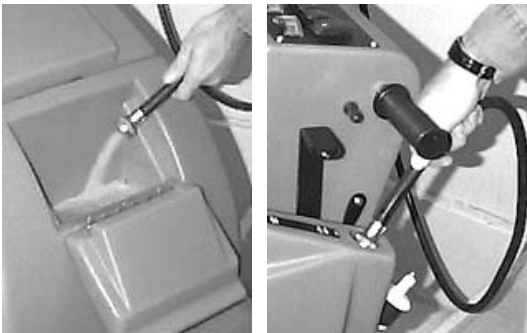

FIG. 10
3. Open solution fill door at front of machine and fill solution tank with 64L (17 gal) of clean water, 60°C (140°F) maximum temperature. Or use the rear fill port to fill solution tank. Twist off plug and insert hose to fill. The clear tube below the fill port has 19L (5 gal) increment markers to indicate amount of water in tank (Figure 10).